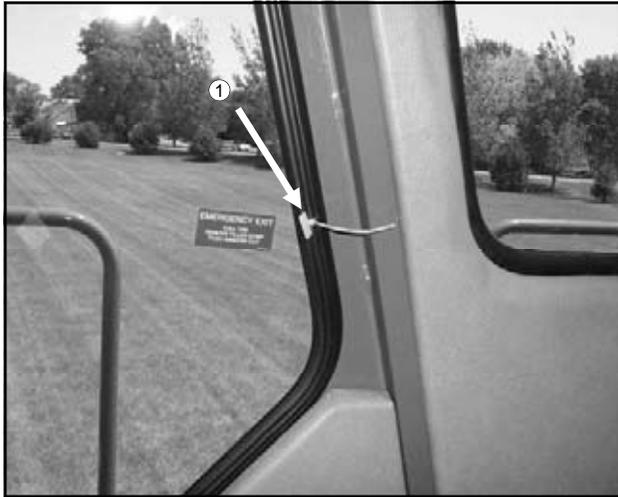
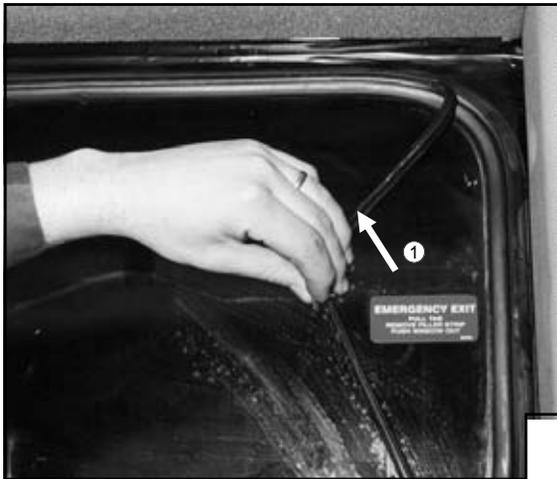

FIG 5.80
FIG 5.81
1. Grasp and pull the tag of the nylon ring next to the emergency exit decal (fig. 5.80, item 1) to remove the extrusion cord (fig. 5.81, item 1).